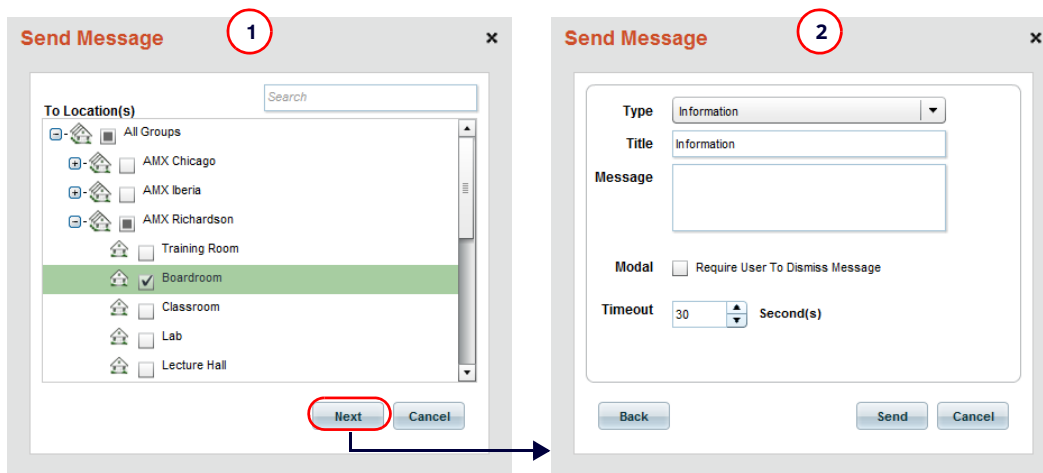

FIG. 76 Dashboard - Send Message
2. This opens the first of two *Send Message* dialogs (FIG. 76). In this dialog, select the Location to which you want to send this Message.
3. Click **Next** to proceed to the second *Send Message* dialog (FIG. 76): .